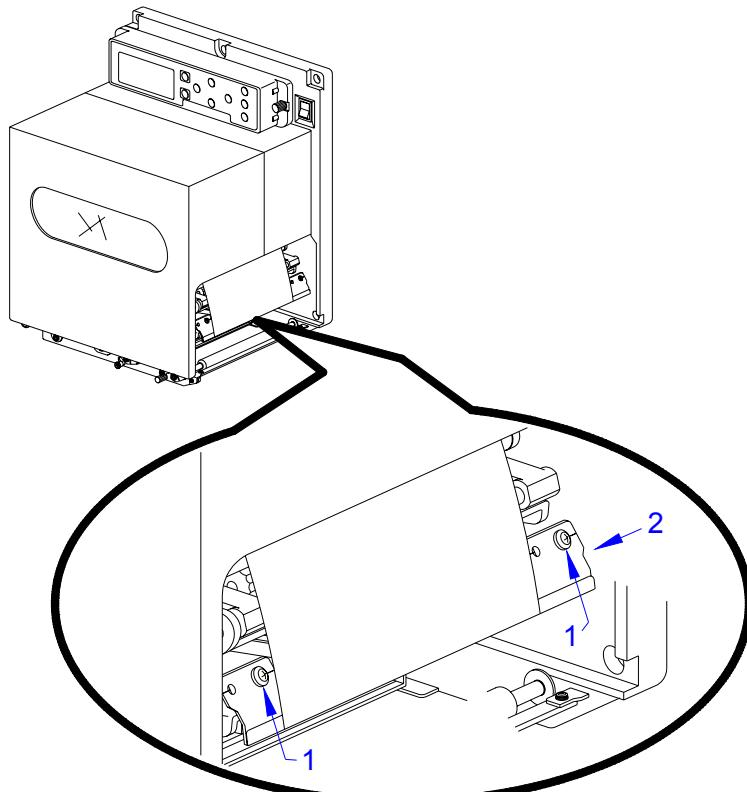

Figure 6-8, Ribbon Guide Alignment
- 3 Loosen one of the two set screws (1, Figure 6-8) and move the free end of ribbon guide (2) upward or downward as necessary until the ribbon appears to unrinkle.
- 4 Retighten loose set screw (1) while holding ribbon guide (2) in place.